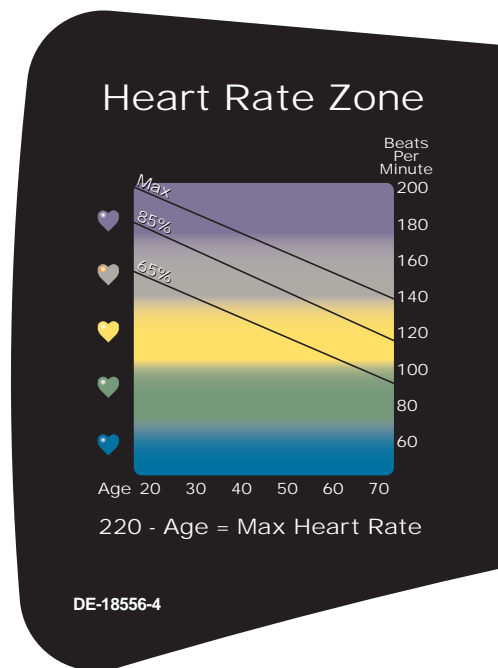

Figure 4
**NOTE:** A label is located on the console to remind you what the heart rate zone is while you are working out. See Figure 4.